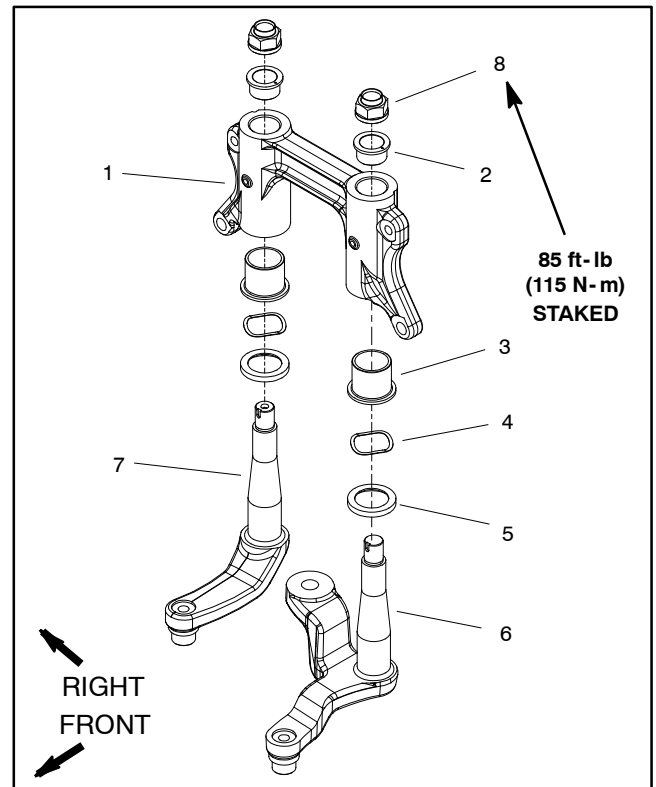

Figure 17
A. If flange bushings (items 2 and 3 in Fig. 17) were removed from pivot mount, make sure that new bushings are pressed fully into the pivot mount.
B. Torque spindle nut (item 8 in Fig. 17) to **85 ft-lb (115 N-m)**. Deform spindle nut into slot in idler arm or pitman arm after torquing nut.
2. If steering linkage (item 19) and center link (item 20) assembly was removed from vehicle:
A. Position assembly to frame and secure with removed fasteners. Torque lock nuts (item 33) from **40 to 50 ft-lb (55 to 67 N-m)**.
3. To install tie rod (item 11) to vehicle: